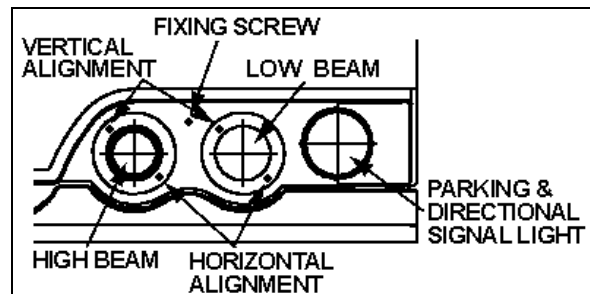

FIGURE 25: HEADLIGHT ASSEMBLY 06546
3. The headlight centerlines shall be spaced either side of the fixed centerline on the screen by $\frac{1}{2}$ the lateral distance between the light source centers of the pertinent headlights. The horizontal tapes should be located on the screen at the upper and lower limits called for in the specification with reference to the height of beam centers and the plane on which the vehicle rests, not the floor on which the screen rests (Fig. 25).